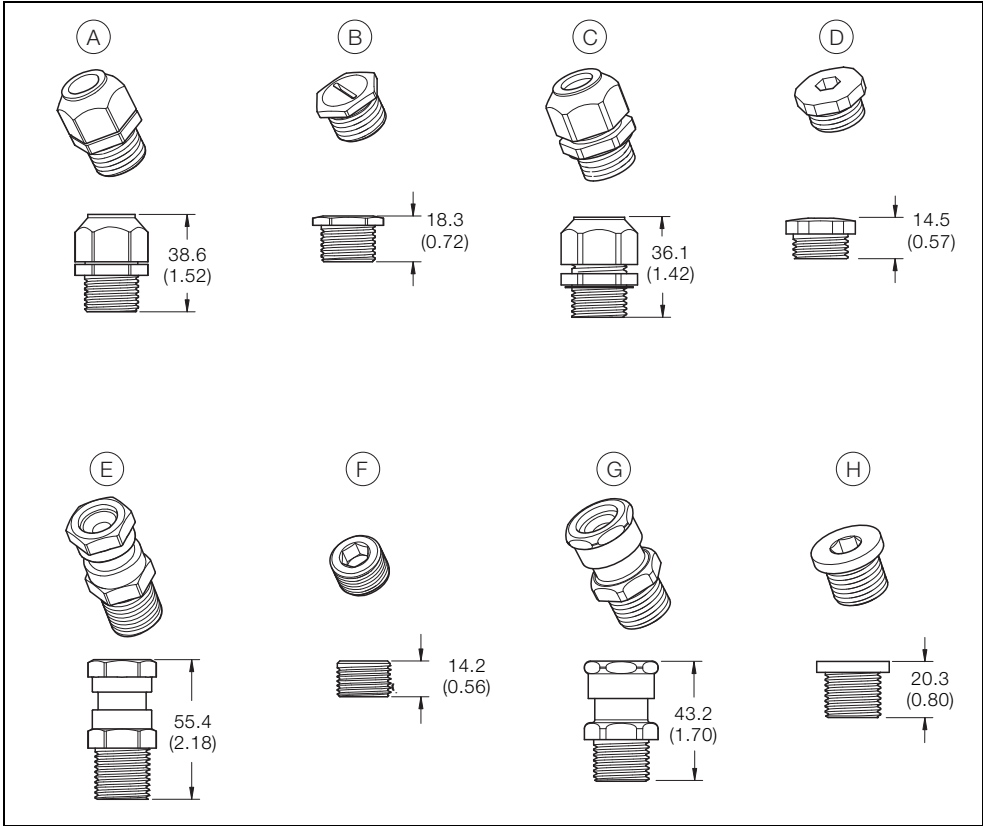

Fig. 4.1 Cable Glands and Plugs
- 2. Route the sensor wiring through one of the three threaded connections in the transmitter housing and use an appropriated cable gland (refer to Fig. 4.1, page 27 for gland options). Note, a cable gland must be used